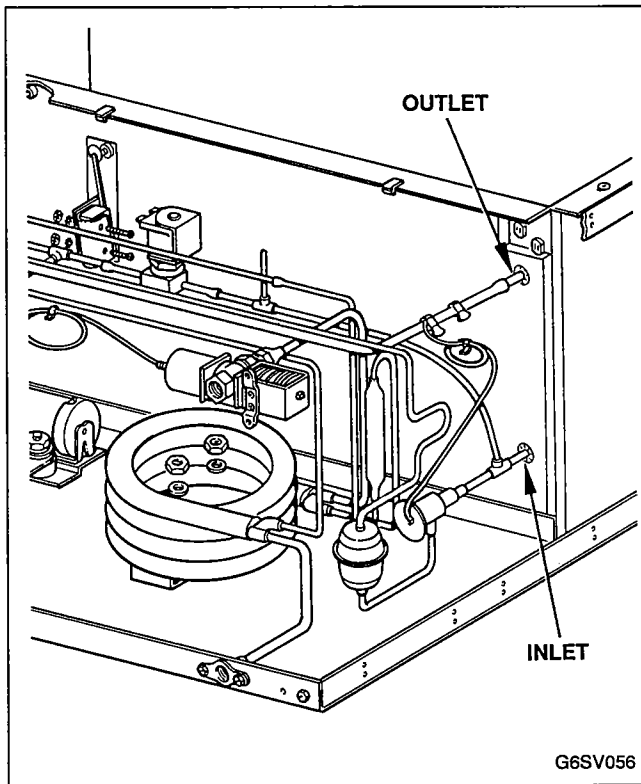

FIGURE 56. TXV OPERATIONAL CHECK
- c. TXV operational check, Figure 56.